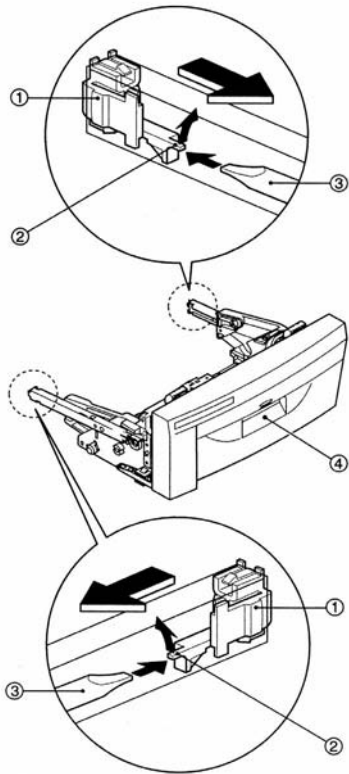
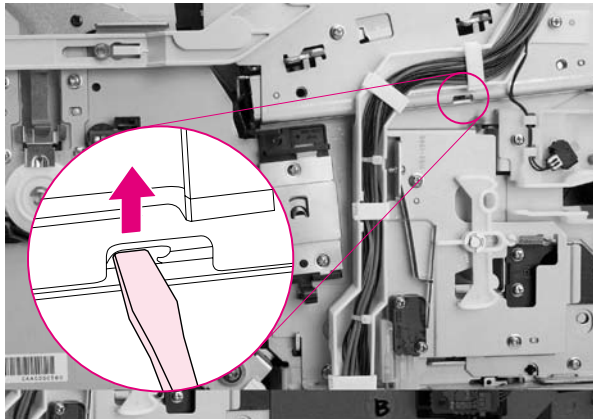

Figure 6-22 Drum drawer (top drawer) assembly removal and replacement (2 of 3)
Figure 6-23 Drum drawer assembly removal and replacement (3 of 3)
- 11 Slide a small flat-blade screwdriver under the black plastic retaining clips on the drawer guide rails. Then lift the tab and pull the drawer out slightly to clear the latch that holds the plastic retaining clips in place (see Figure 6-22 and Figure 6-23).